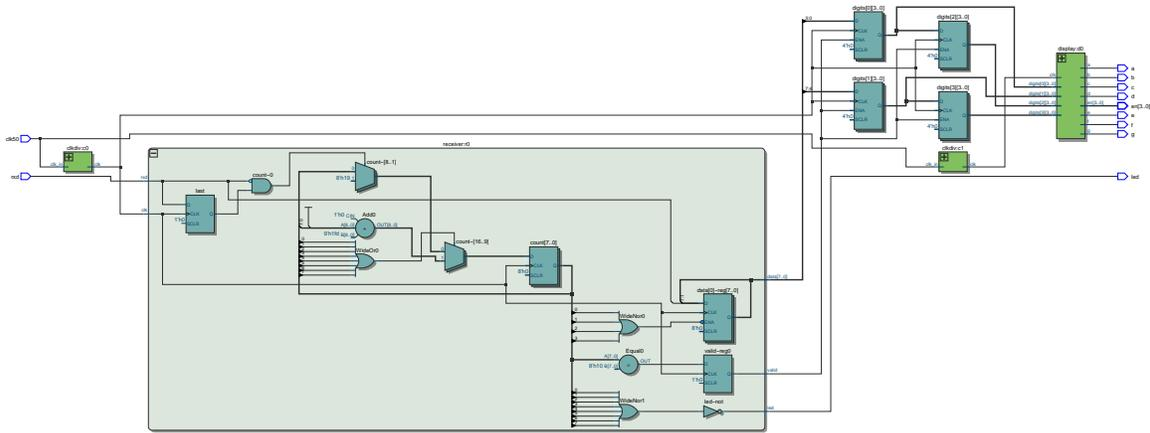

Figure 2: “RTL Netlist” Schematic.
2. The RTL schematic (Tools > RTL Netlist) with the receiver module expanded. This will be similar to Figure 2.